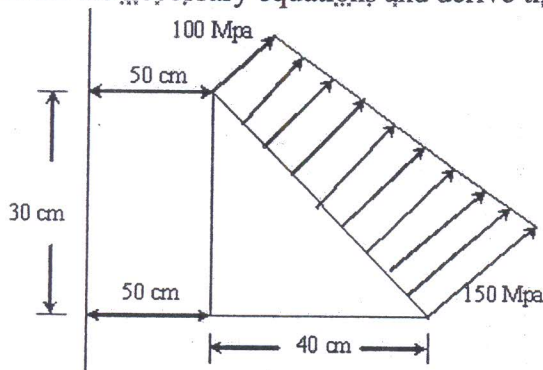

Figure.5
- 5.a) An axisymmetric triangular element is subjected to the loading as shown in Figure.5. the load is distributed throughout the circumference and normal to the boundary. Derive all the necessary equations and derive the nodal point loads. [15]